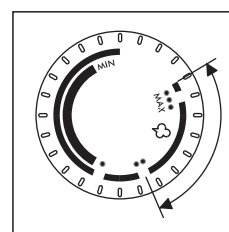

fig. 3
- Turn the thermostat dial on the iron handset to the steam area indicated in Fig 3. (Remember to test fabrics first if you are unsure of the temperature to iron them at). The thermostat dial should be altered in accordance of what type of fabric you are ironing (see table on page 5 for guidance).